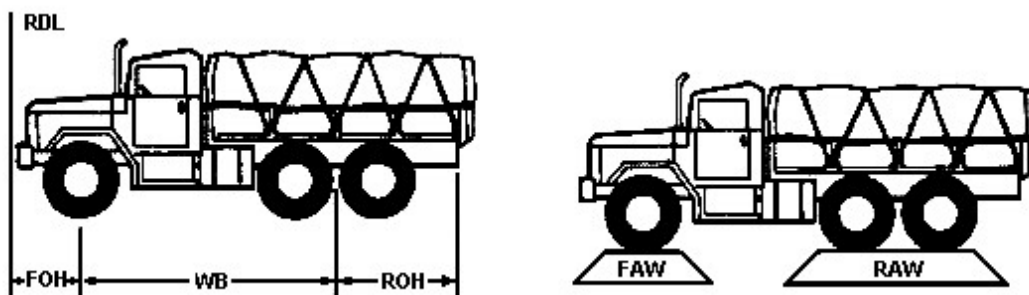

Figure 3-15
1. Identify all vehicle measurement points (see Figure 3-15).